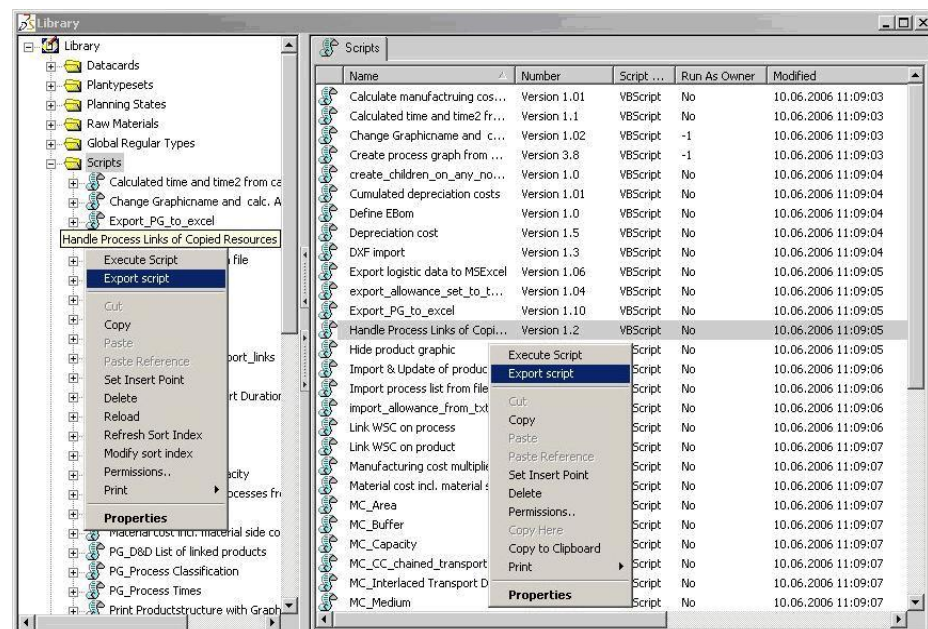

Figure 24: Exporting an Individual Script
- 1) To export an individual script, in the browser or the list view select the corresponding script and then select **Export script** from the context. Please refer to the Figure 24.